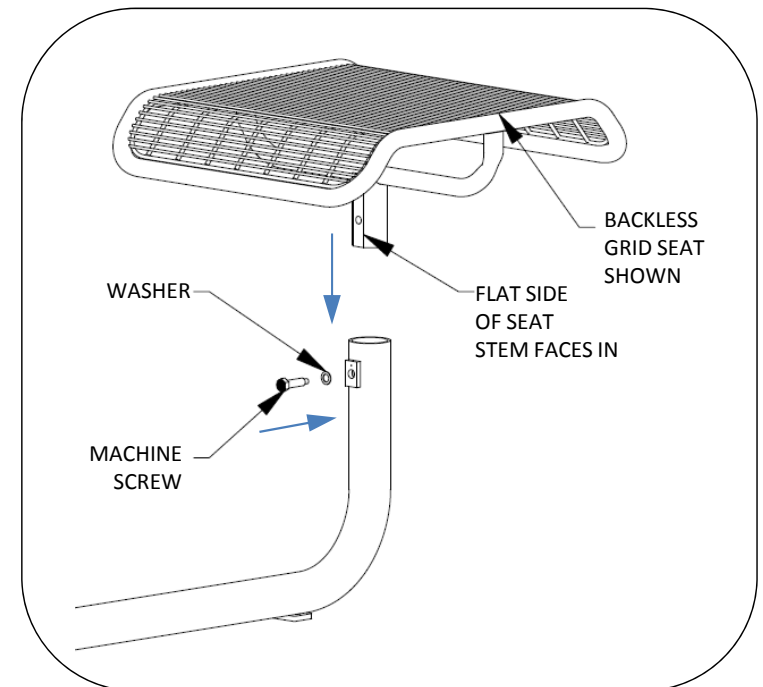

Fig. 11 – Install seat
**PROCEDURE FOR ASSEMBLING SEATS:** See Fig 11. This should be done after assembling supports to tabletop.